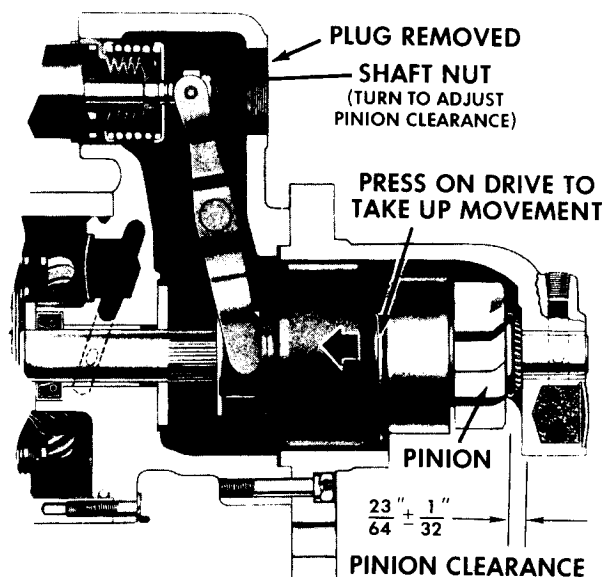

Figure 26—Checking pinion clearance on heavy duty motor.
5. Adjust clearance by removing plug and turning shaft nut (Figs. 26 and 27). **Although typical specifications are shown, always refer to 1M-188, 1M-187, or 1M-186 for specifications applying to specific models.**